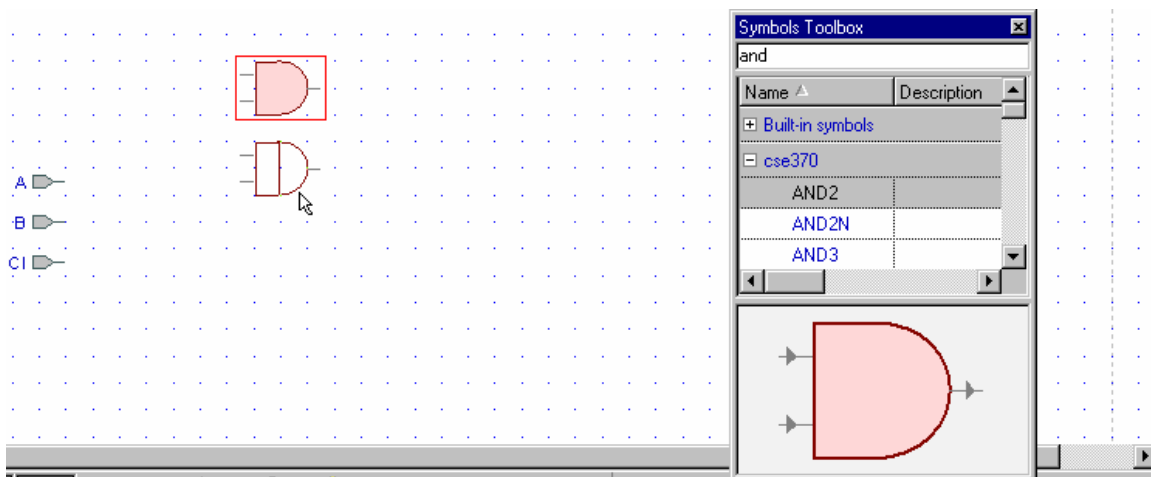

Figure 19
5. Active-HDL uses the standard Windows user-interface to select, move, and copy items in the schematic (i.e. drag, Ctrl-drag for copying multiple parts, Ctrl-z for undo, etc.). Figure 19 is an example of Ctrl-drag.